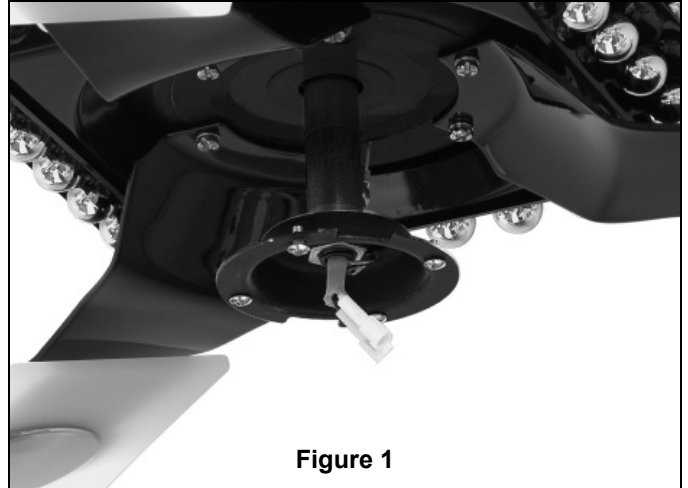

Figure 1
3. With a Philips screwdriver, tighten washer-head screws with metal washers. Install blade holder to blade medallion and plastic blade. (Figure 1)
1. Loosen four screws and remove one screw from support flange. (Figure 1).